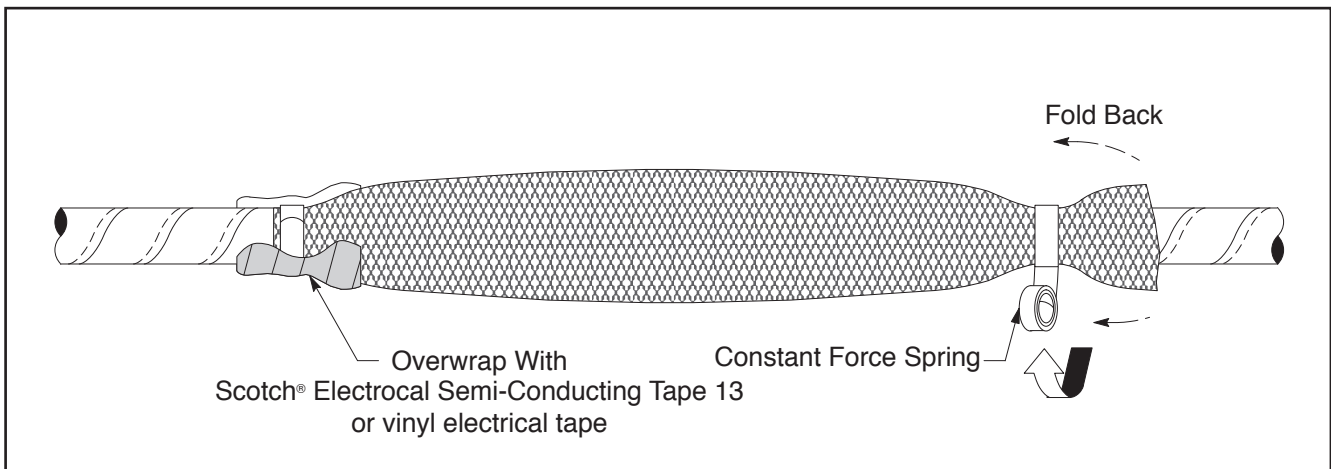

Figure 17
- e. Fold ends of sleeve wires back over the single wrap of coil, then continue applying coil, allowing it to wrap around the wires and itself (*Figure 17*).
- f. Using hand to pull on loose end of shielding braid sleeve, pull so sleeve snugs firmly against splice. Secure it into position with second constant force spring applied in the same manner as the first (*Figure 17*).
- g. Overwrap constant force spring and ends of folded back shielding braid sleeve with a layer of Scotch® Electrical Semi-Conducting Tape 13 or vinyl electrical tape (*Figure 17*).